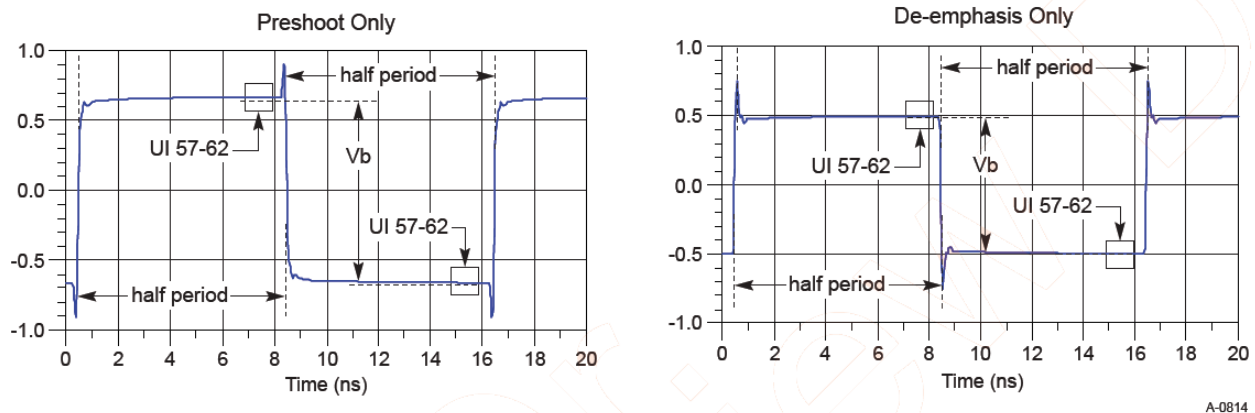

Figure 80 Waveform measurement points for pre-shoot and de-emphasis
8.0 GT/s and 16.0 GT/s PCIe signaling must support the full range of presets given in Table 8-1 of the PCI Express Base Specification, Rev 4.0. Presets are defined in terms of ratios, relating the pre-cursor and post-cursor equalization voltages. The pre-cursor (V_c) is referred to as pre-shoot, while the post-cursor (V_b) is referred to as de-emphasis. This convention permits the specification to retain the existing 2.5 GT/s and 5.0 GT/s definitions for Tx equalization, where only de-emphasis is defined, and it allows pre-shoot and de-emphasis to be defined such that each is independent of the other. The tolerances in Table 8-1 also apply to 2.5 and 5.0 GT/s de-emphasis. The maximum swing, V_d , is also shown to illustrate that, when both c_{+1} and c_{-1} are non-zero, the swing of V_a does not reach the maximum as defined by V_d . Figure 8-5 is shown as an example of transmitter equalization, but it is not intended to represent the signal as it would appear for measurement purposes. The high frequency nature of PCIe signaling makes measurement of single UI pulse heights impractical. Consequently all amplitude measurements are made with low frequency waveforms, as shown in Figure 80.